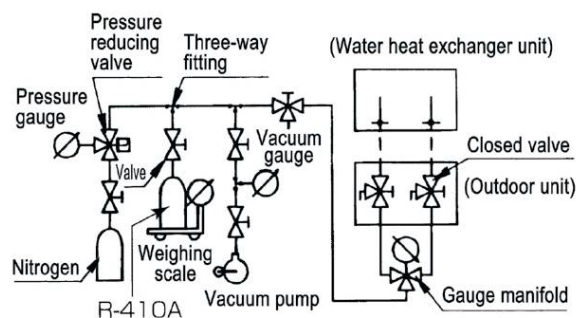

Figure 4
6. After connecting the piping, perform gas leakage testing by means of an air purge (Figure 4).